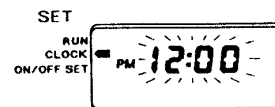

Fig. 2
- Press the SELECT button once so that the SET INDICATOR is pointing to the CLOCK position on the front of the programmer. The time of day display will now flash (see figure 2).